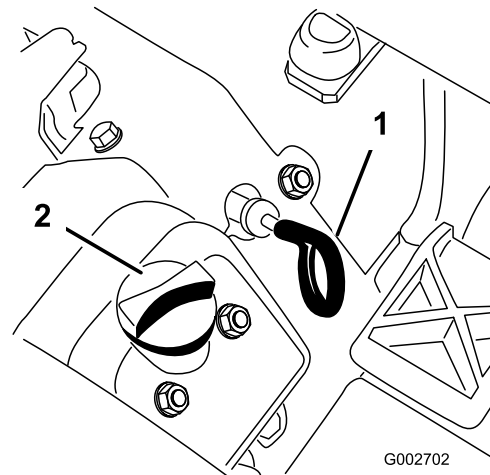

Figure 14
3. Pull out the dipstick (Figure 14) and wipe it with a clean rag. Insert the dipstick into the tube and make sure that it is seated fully. Remove the dipstick from the tube and check the oil level. If the oil level is low, remove the filler cap from the valve cover and add enough oil to raise the level to the Full mark on the dipstick.